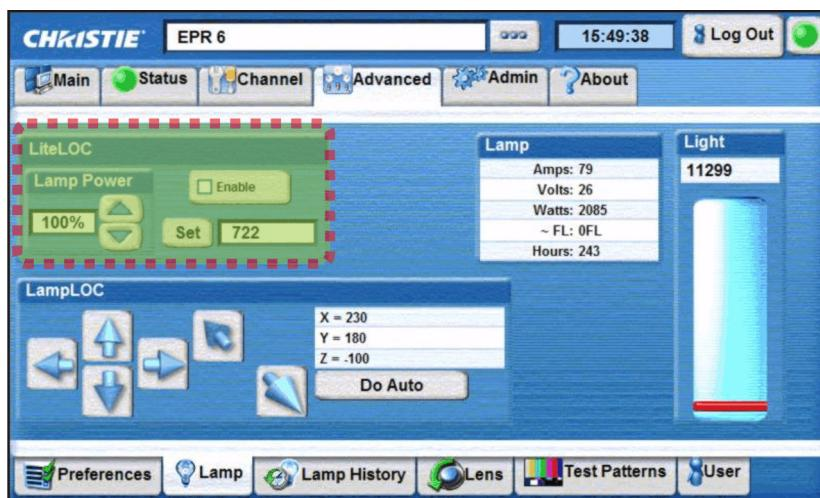

FIGURE 2-20 ENABLE LITELOC
1. In the **Advanced: Lamp** menu, adjust **Lamp Power** (Figure 2-20) until the desired light output is reached at the screen (typically 14 fL). Any LiteLOC™ is automatically disabled.